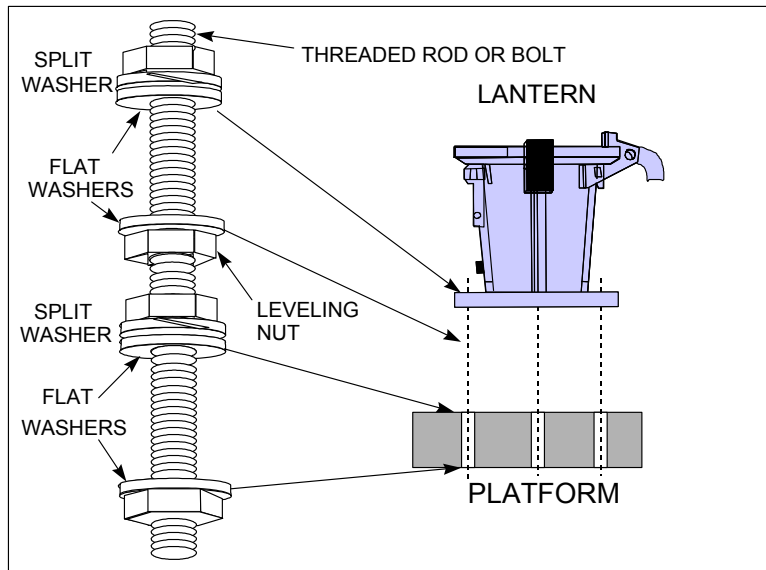

Figure 3-1
- (1) Install three ½" stainless steel threaded rods or bolts on the platform as shown in Figure 3-1. Add the leveling nut and flat washer at this time.